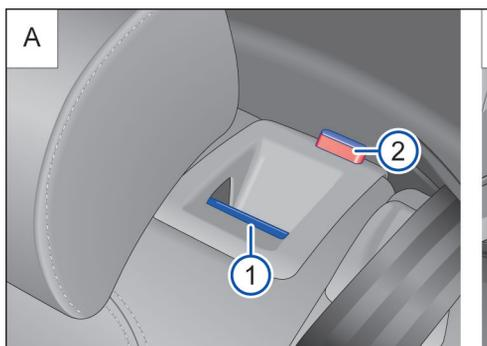

Fig. 69 A: Rear seat backrest: Release button ① and red mark on the indicator ②. B: Seat backrest folded forward.
- Pull the release button → fig. 69 ① forward to release the rear seat backrest.
The rear seat backrest is unlocked if the red mark → fig. 69 ② can be seen on the indicator.
- Fold the rear seat backrest back until it latches securely → ⚠️. The red mark on the indicator → fig. 69 ② should no longer be visible.
- If the red mark on the indicator → fig. 69 ② is visible, this indicates that the backrest is not latched into place. Always check to make sure that the red mark is not visible whenever the rear seat backrest is in the upright position.